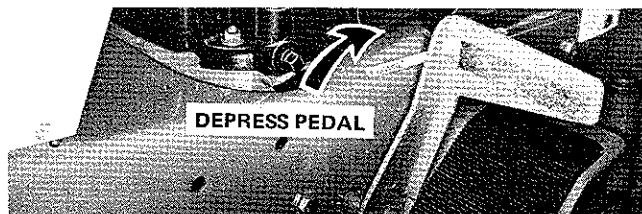

FIGURE 10
3. Depress the clutch-brake pedal all the way and hold it down. (See Figure 10).